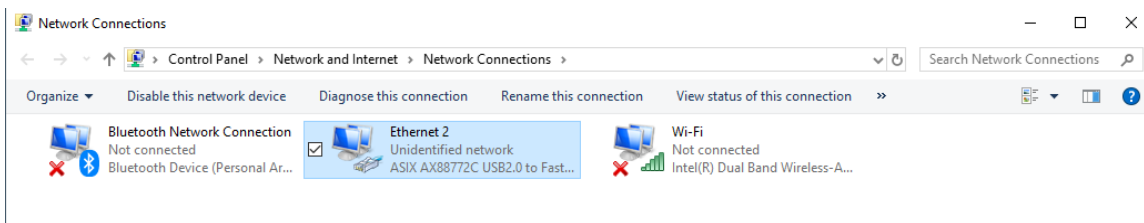
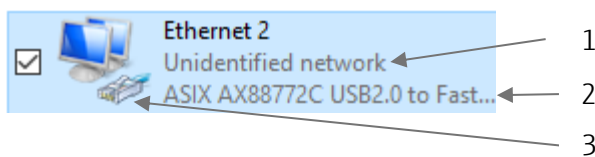

Fig. 10 Windows Network Connections
Fig. 11 Detailed view of a network interface display
- Identify the wired connections in the Windows Network Connections (see Fig. 10). Wired networks can be identified by their symbol (see Fig. 11).